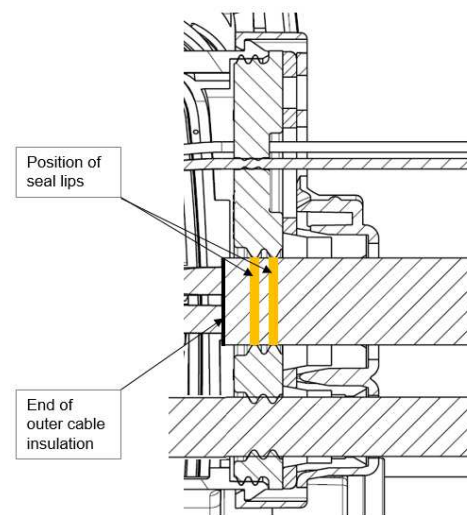

Figure 35a – AC seal lips
**ATTENTION:** Ensure that the AC-Multicore cable is well positioned in the FAMILY SEAL, that all seal lips are safely placed on the outer isolation of the cables. (Figure 35a)
Push the COVER CABLE SEAL AC 5-2296057-3 over it and snap it on the CABLE EXIT COVER 5-2296039-3. Ensure that both hooks are correctly engaged (double audible click), see figure 35a.